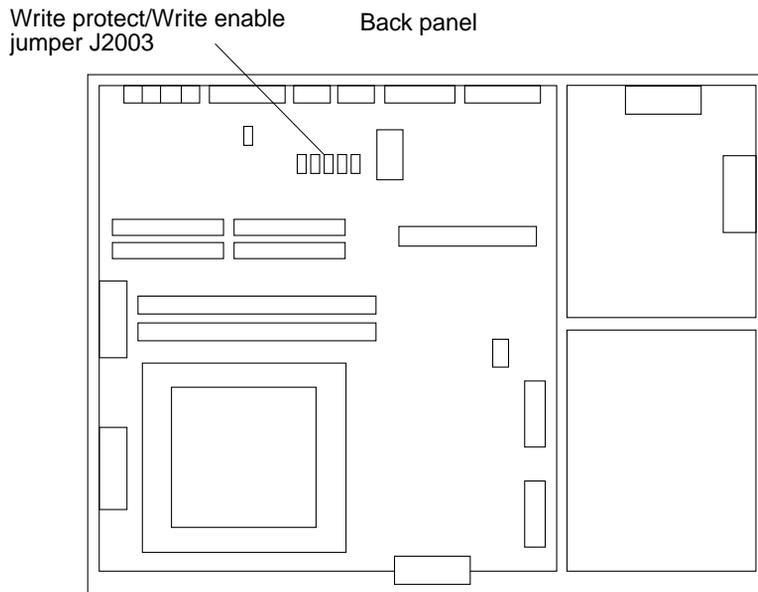

FIGURE 1-2 Sun Ultra 2 Flash PROM Jumper Location on Motherboard
- For a Sun Ultra 2 system, see FIGURE 1-2 on page 1-4.